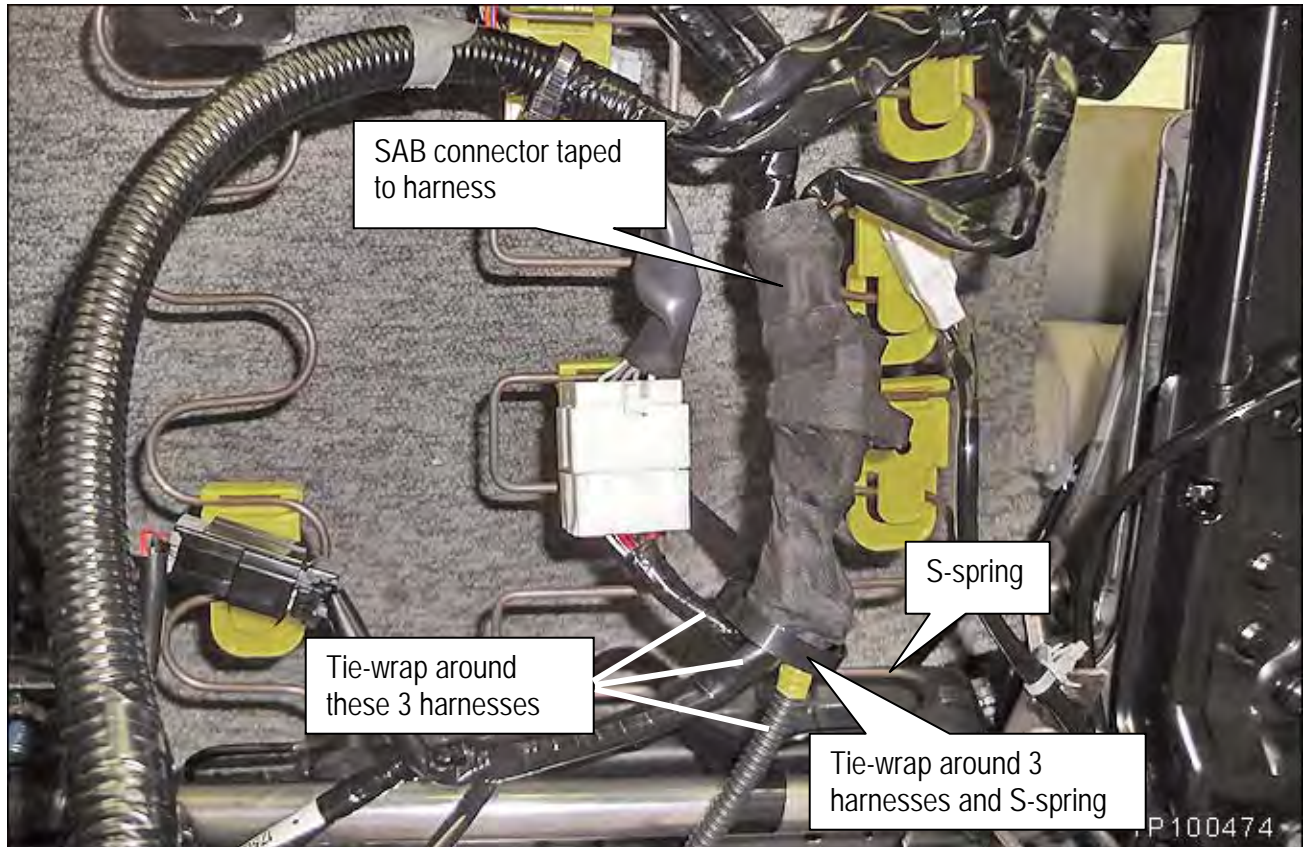

Figure 7c
7. Completely tape the SAB connector to the seat harness as shown in Figure 7c.
8. Attach tie-wrap (P/N 24216 – S5800) around harnesses and S-spring as shown in Figure 7c.